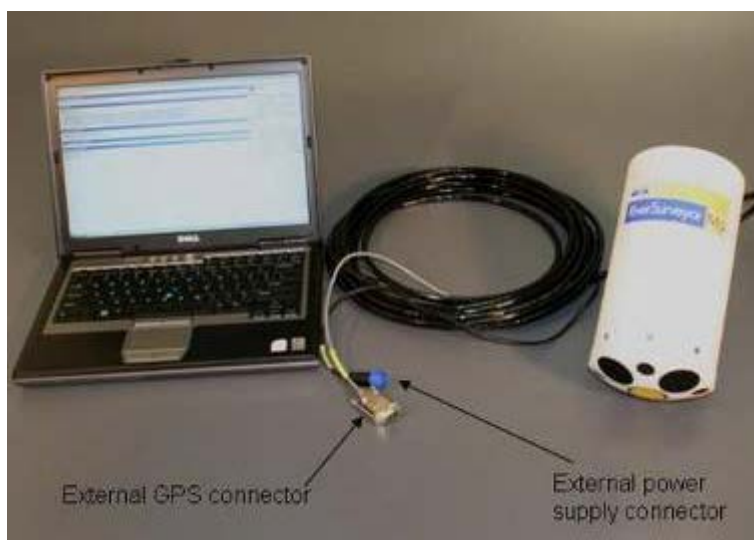

Figure 9. Hardware Required for the Direct Connect Option
4. Connect the external AC power supply to the system by connecting the 2-pin power cable from the 10-meter power/serial communications cable to the power source. Figure 9 shows the hardware necessary for this option.